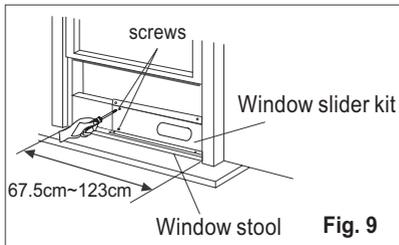

Fig. 9
2. Open the window sash and place the window slider kit on the window stool (Fig. 9). Attach the window slider kit to the window sill. Adjust the length of the window slider kit according to the width of window. Screw down the two screws on the window slider kit. See Fig. 9.